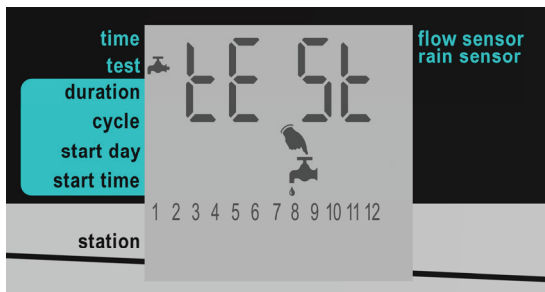

Figure 18: Test Screen
1. Press **↶** until the Test screen is displayed (Figure 18).